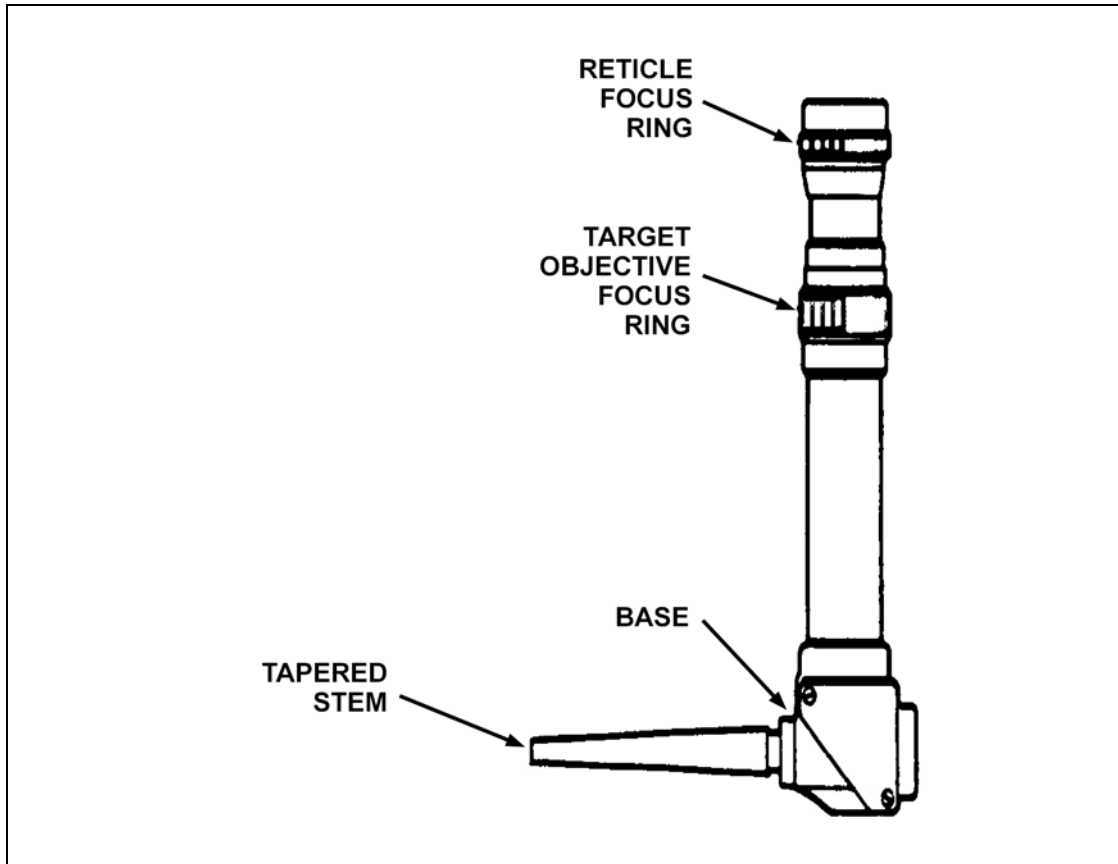

Figure B-2. Reticle-focus and target-objective-focus rings.
(1) The telescope's 5X magnification allows the viewer to focus on any target between 5 meters and infinity. After you have properly focused the telescope, the aiming point of the reticle stays put, even if you move your head while looking at it.
(2) Adjust the telescope's two focusing rings (Figure B-2) in the following order: